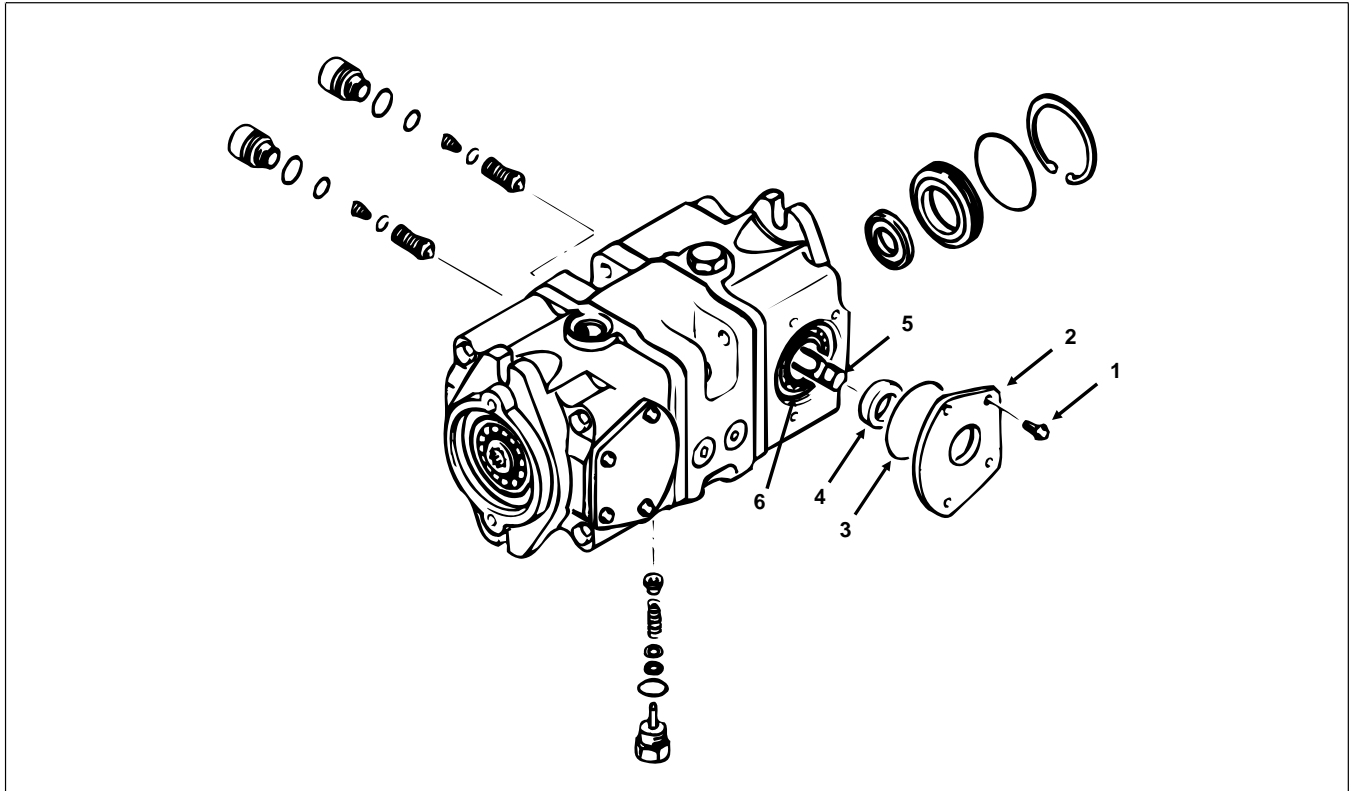

Figure 29
3. Remove hex tapping screws retaining trunnion seal cover to transmission housing (Fig. 29).